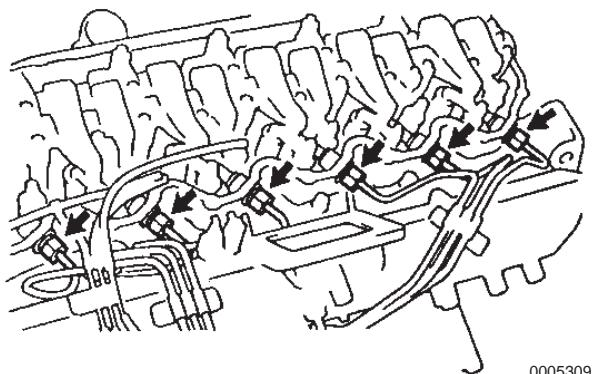

Figure 6-46
7. Tighten the union nut to the fuel injection nozzle and torque to: 250 kgf·cm, 24.52 N·m (18 lb·ft) (**Figure 6-46**).